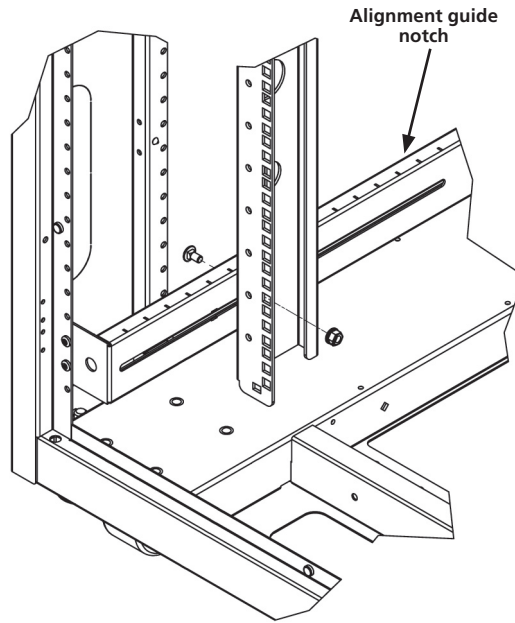

Figure 3-8. Adjusting the vertical mounting rails.
Rails are attached using a sliding nut and $\frac{1}{4}$ -20 hex head bolt. Loosen both top and bottom bolts, using a $\frac{3}{8}$ " socket set, then adjust the rails front to back using the alignment guide notches shown in Figure 3-8. Rackmount units (RU) are marked on rails for easy equipment mounting. Round cable pass through and vertical and horizontal cable tie down slots are provided on side of rails.